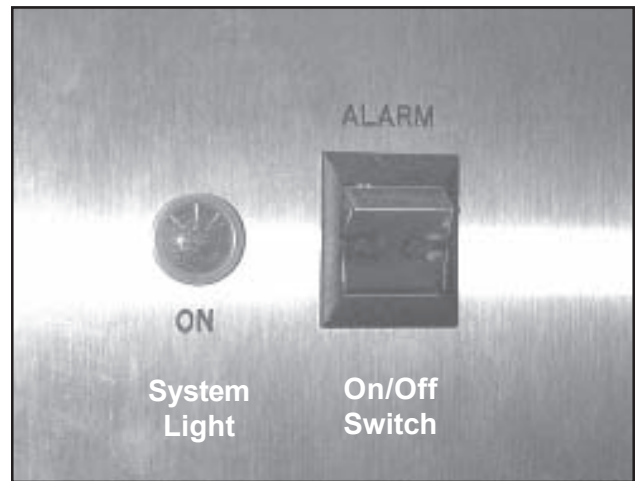

Figure 47. Alarm Controls
7. Push the alarm on/off switch (Figure 47) to On. The amber light in the switch comes on.